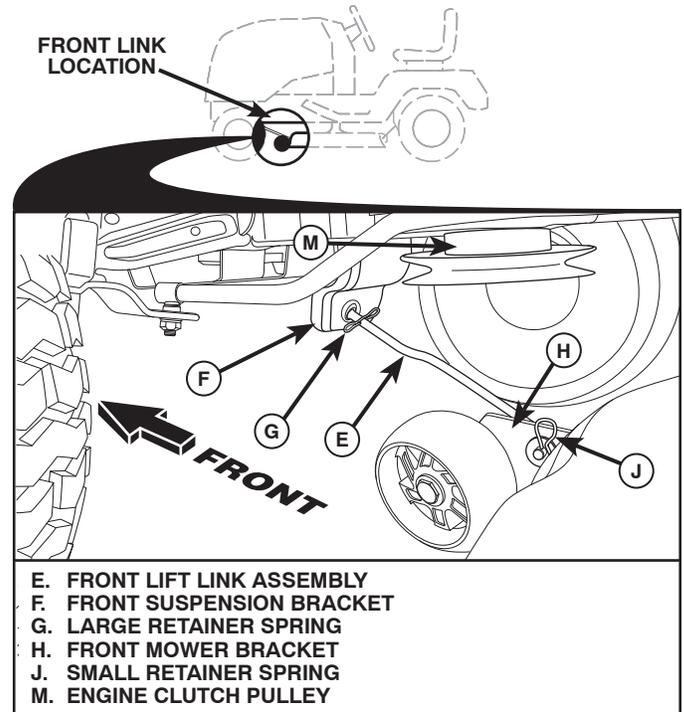

Fig. 35
## 8 ATTACH FRONT LINK (E) (See Fig. 35)
- From front of tractor, insert rod end of front link (E) through front hole in tractor front suspension bracket (F).
- Move to left side of mower and insert large retainer spring (G) through hole in front link (E) behind front suspension bracket (F).
- Insert other end of link (E) into hole in front mower bracket (H) and secure with washer and small retainer spring (J).